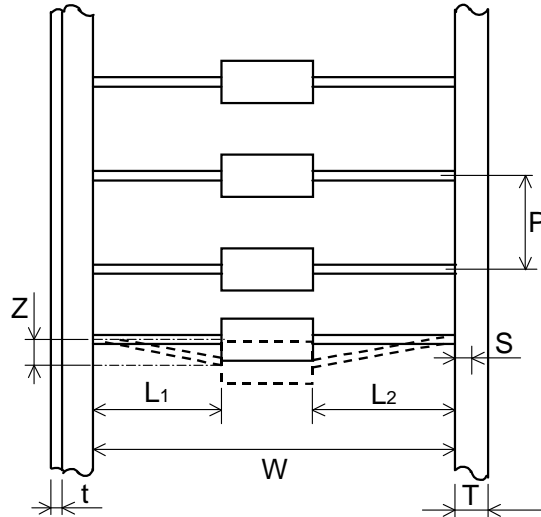

Figure-5
10.2 Taping design and dimensions shall be in accordance with Figure-5 and Table-7.